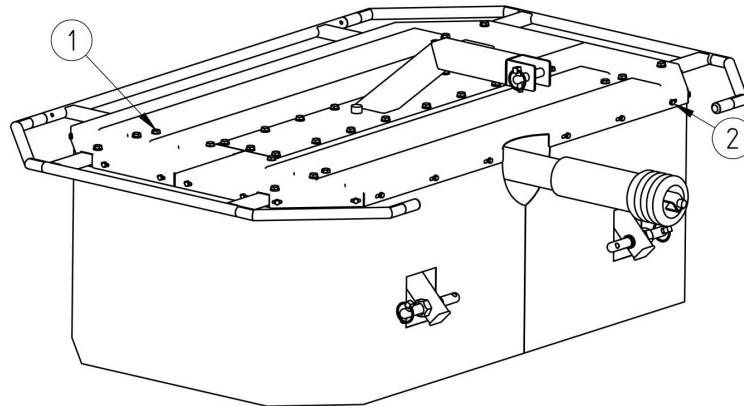

Fig 6 Cutting unit cover assembly
- Tighten the M10x25 bolts (fig. 6 pos. 1) to the main frame.
- Tighten the tarpulin skirt with M6x16 bolts to the cutting unit cover (fig. 6 pos. 2).